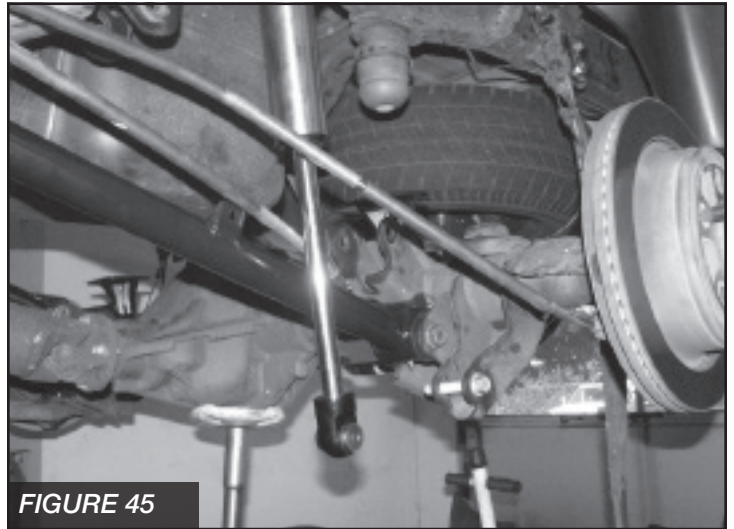

FIGURE 45
63. Install the new Lower Link Arms into the factory rear axle mounts with the factory hardware. Then attach the arm to the frame mounts also with the factory hardware. Leave loose at this time. **SEE FIGURE 45**